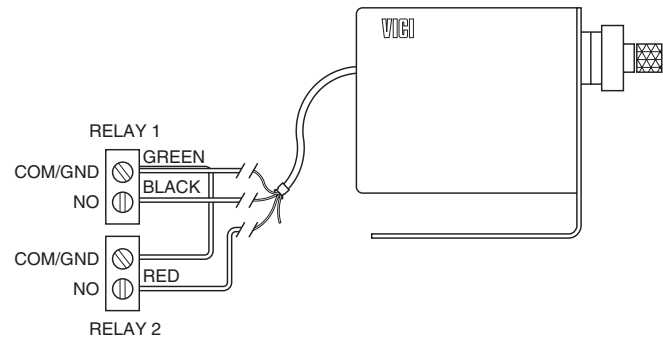

Figure 2: Dual relay connection
Connect the black wire (INJECT) to the normally open (NO) terminal of the first relay, and the green wire (GROUND) to its common or logic ground terminal. Connect the red wire (LOAD) to the normally open (NO) terminal of the second relay, and connect a jumper wire from the common or logic ground of the first relay to that of the second. (Figure 2)